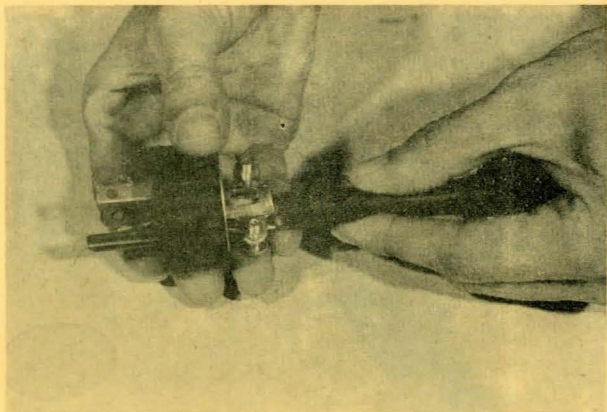

Figure 7
6. Insert wire into plug (Fig. 7).